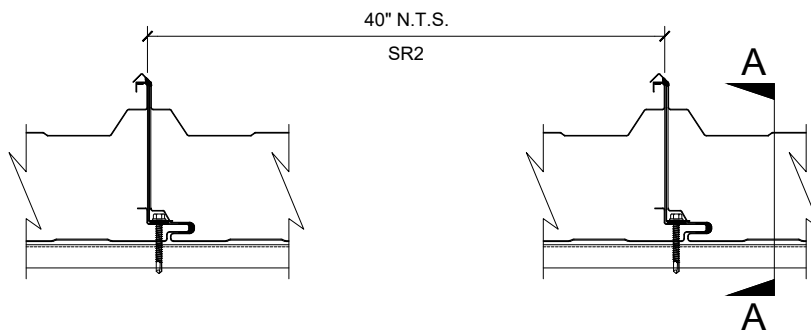

FIGURE 6
- 12.7 APPLY 1/8" DIAMETER BEAD OF NON-SKINNING BUTYL SEALANT DIRECTLY UNDERNEATH SR JOINT CLIP. INSTALL THE THERMALLY-BROKEN STAINLESS STEEL SR JOINT CLIP AS SHOWN IN FIGURE 6. FASTEN DOWN SR CLIP WITH SUPPLIED FASTENERS PER THE ROOF PANEL FASTENING SCHEDULE AND CONNECTIONS DETAILS SHOWN ON THE ALL WEATHER INSULATED PANELS SHOP DRAWINGS. USE A STANDARD 0 TO 800 RPM VARIABLE SPEED SCREW GUN WITH 4 TO 5 AMPS AND A POSITIVE CLUTCH OR DEPTH LOCATING NOSE TO DRIVE FASTENERS. DO NOT USE IMPACT TYPE GUNS. DO NOT OVER-TIGHTEN.